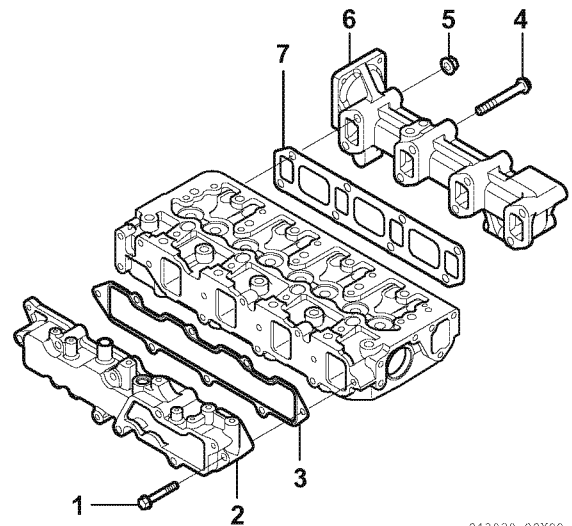

Figure 6-4
5. Remove the intake manifold bolts (**Figure 6-4, (1)**). Remove the intake manifold (**Figure 6-4, (2)**). Discard the intake manifold gasket (**Figure 6-4, (3)**).
8. Remove the exhaust manifold bolts (**Figure 6-4, (4)**) and nuts (**Figure 6-4, (5)**). Remove the exhaust manifold (**Figure 6-4, (6)**) and the exhaust manifold gasket (**Figure 6-4, (7)**).